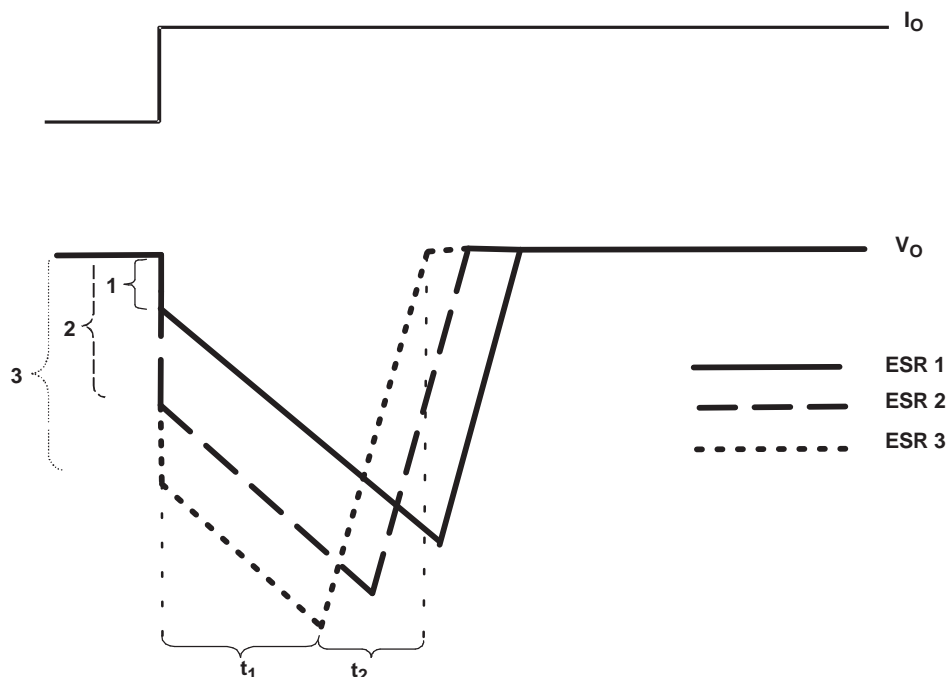

Figure 49. Correlation of Different ESRs and Their Influence on the Regulation of V_O at a Load Step from Low-to-High Output Current
- When C_O is conducting current to the load, initial voltage at the load will be $V_O = V_{(CO)} - V_{ESR}$. As a result of the discharge of C_O , the output voltage V_O drops continuously until the response time t_1 of the LDO is reached and the LDO resumes supplying the load. From this point, the output voltage starts rising again until it reaches the regulated voltage. This period is shown as t_2 in Figure 49.
Figure 49 also shows the impact of different ESRs on the output voltage. The left brackets show different levels of ESRs where number 1 displays the lowest and number 3 displays the highest ESR.